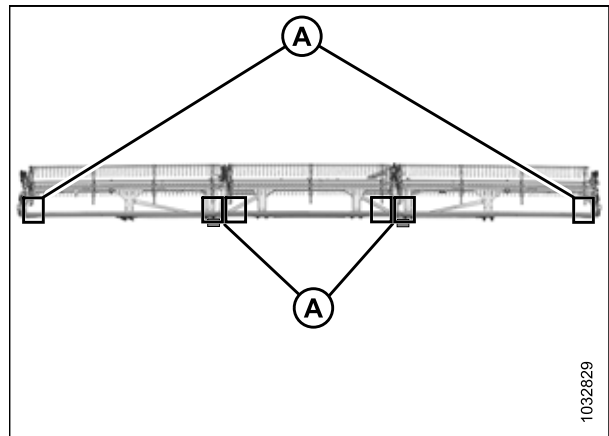

Figure 6.40: FlexDraper® Measurement Locations – Triple Reel
- Triple-reel headers: Figure 6.40, page 270